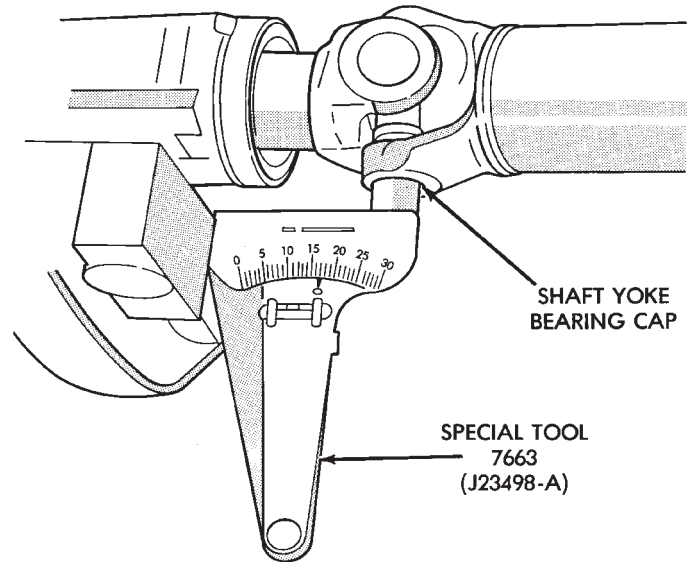

Fig. 8 Propeller Shaft Angle Measurement (C)
(3) Rotate propeller shaft 90 degrees and place Inclinometer on yoke bearing cap parallel to the shaft (Fig. 8). Center bubble in sight glass and record measurement. This measurement can also be taken at the rear end of the shaft.